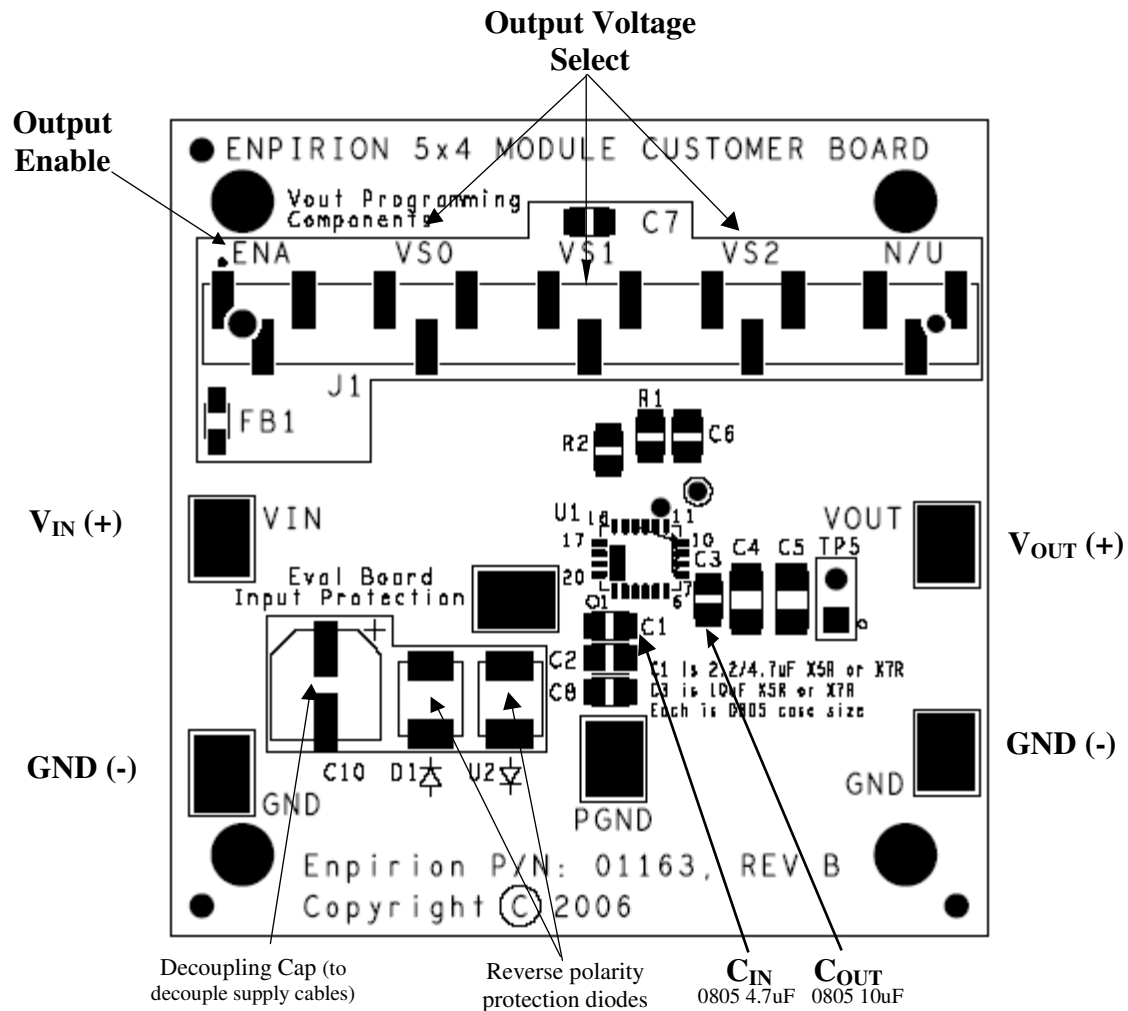

Figure 1. Evaluation Board Layout.
Figure 1 shows a top view of the evaluation board.
STEP 3: Connect Power Supply to the input power connectors, VIN (+) and GND (-) as indicated in Figure 1.
STEP 4: Connect the load to the output connectors V_{OUT} (+) and GND (-), as indicated in Figure 1.